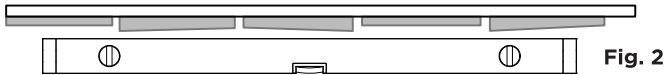

Fig. 2
- 3.2 It is important to level out the surface. This can be done using the appropriate filler material to ensure adhesion (joint compound, cement glue, etc...). Any large cavity more than 1/8-inch deep should be filled. **(Fig. 2)**